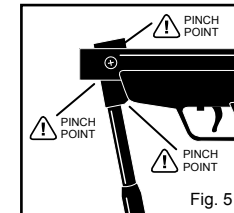

Fig. 5
**⚠ CAUTION:** Be careful to keep fingers clear of cocking mechanism. (See "Pinch Points", Fig. 5) Grasp the barrel or lever firmly as you cock it and close it to prevent it from snapping back and possibly causing injury.